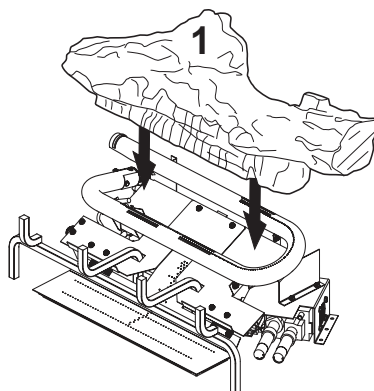

Figure 21 - Installing Log #1
- Place rear log (#1) on base assembly as shown in Figure 21. Log will fit over right end of burner and rest in middle of U-burner.